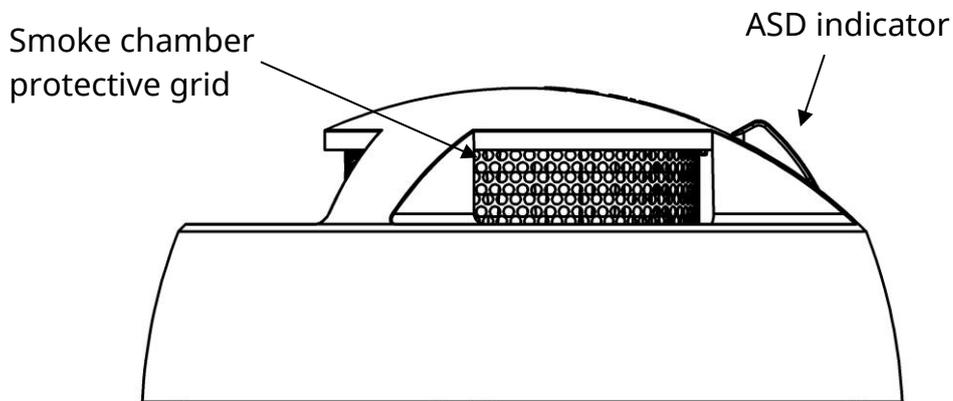
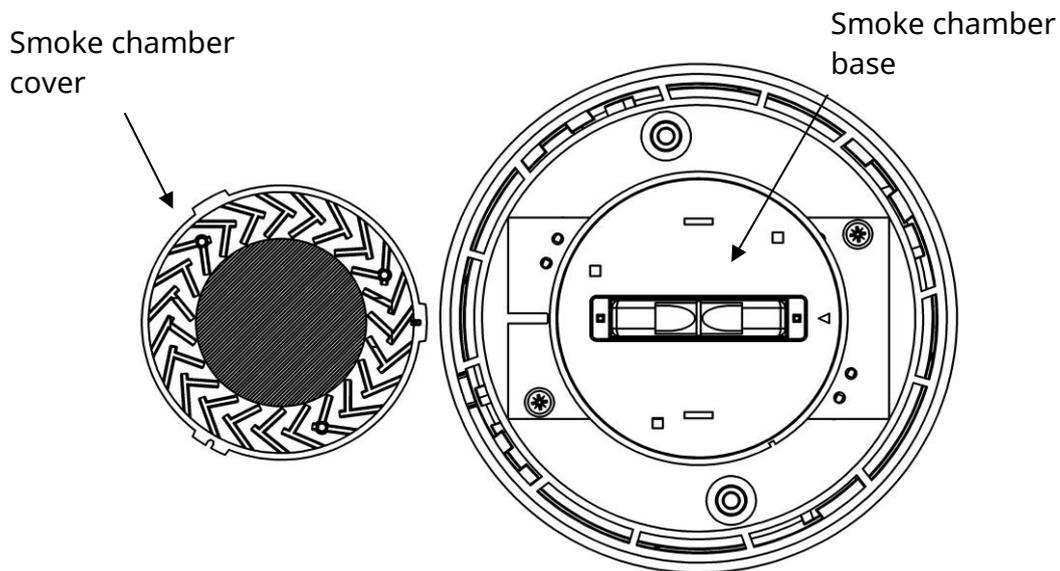

Figure 2 – ASD view of from aside
Figure 5 – Smoke chamber of ASD opened
4.3 LED indicators are used to indicate the operation modes and ASD status, combined with one light guide mounted in the cover (Fig. 2):
3) remove the protective grid (Fig. 2) from the smoke chamber, then remove the cover of the smoke chamber, pulling it away from the base (Fig. 5);